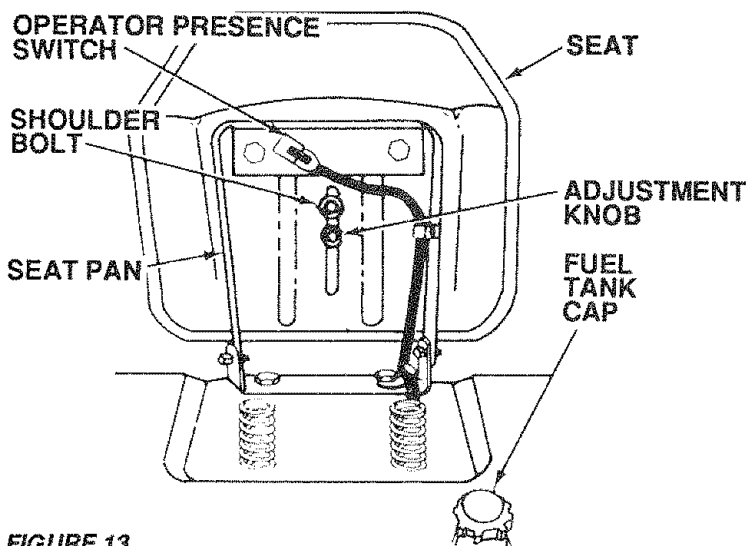

FIGURE 13
- Fill fuel tank (Fig. 13). Use fresh, clean, regular unleaded gasoline. (Use of leaded gasoline will increase carbon and lead oxide deposits and reduce valve life.) Capacity is 13 litres (3-1/2 gallons).